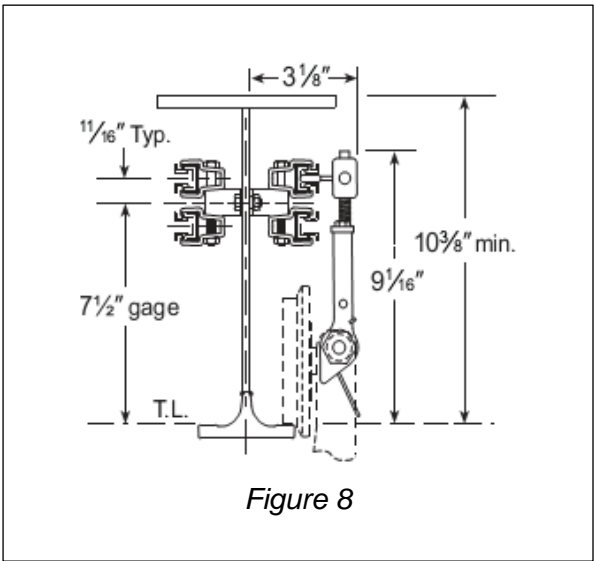

Figure 8
- Figure 8 – Side Contact conductor bar mounted on 325L Series Rail with Electrical Collectors mounted on a typical trolley.